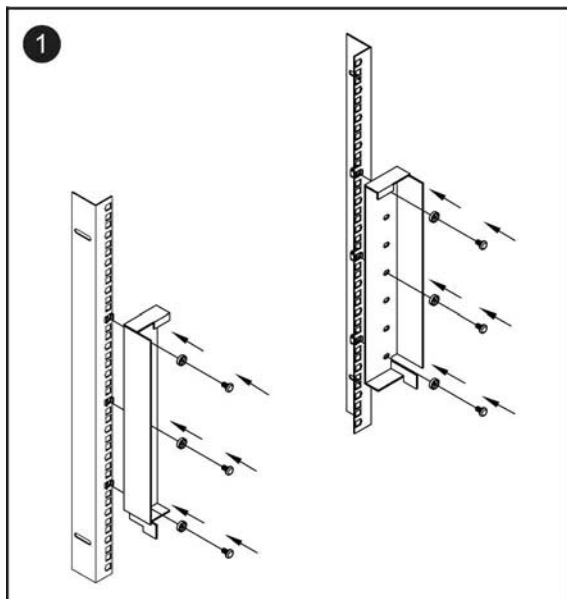

Figure 3.
- Install each screw shown in **Figure 3**.